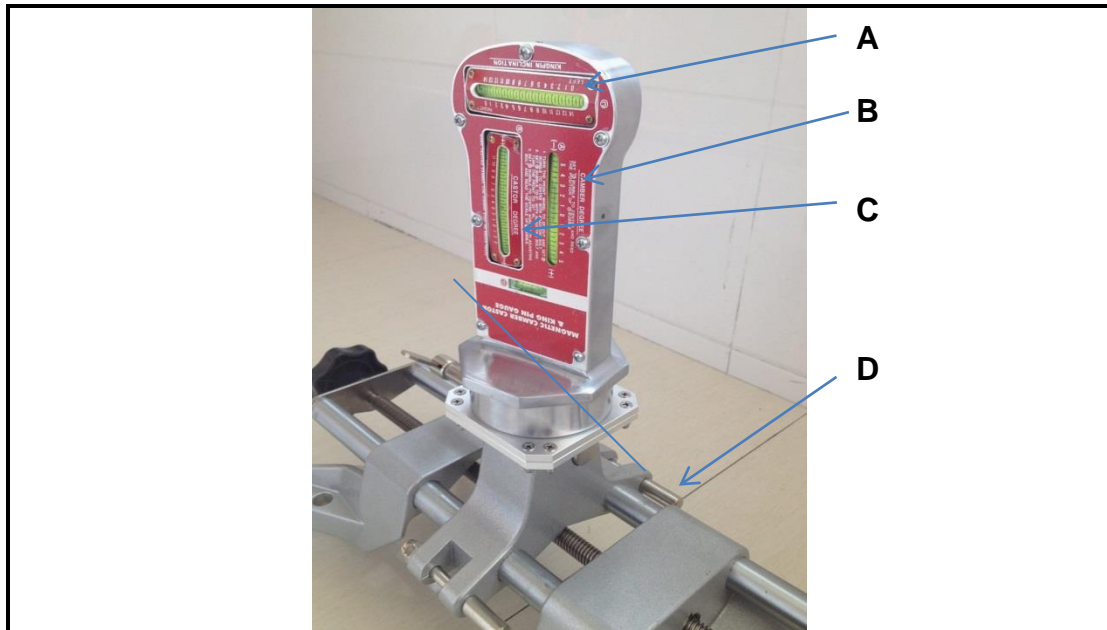

FIGURE 5.1
5.1 FIGURE 5.1 below shows wheel alignment equipment commonly used in tyre fitment centres. Use it to answer the questions that follow.
5.1.1 Identify the equipment in FIGURE 5.1. (1)
5.1.3 What is the purpose of the equipment in FIGURE 5.1? (3)